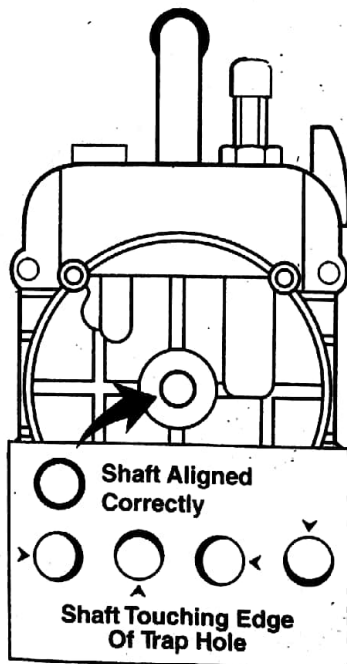

FIG. 10
2. Check alignment by rotating shaft with coupler. If shaft moves freely continue assembly. If shaft binds, loosen bolts and turn shaft until shaft rotates freely. Retighten bolts. Shaft should be concentric with shaft hole when viewed from backside (**FIG. 10**).